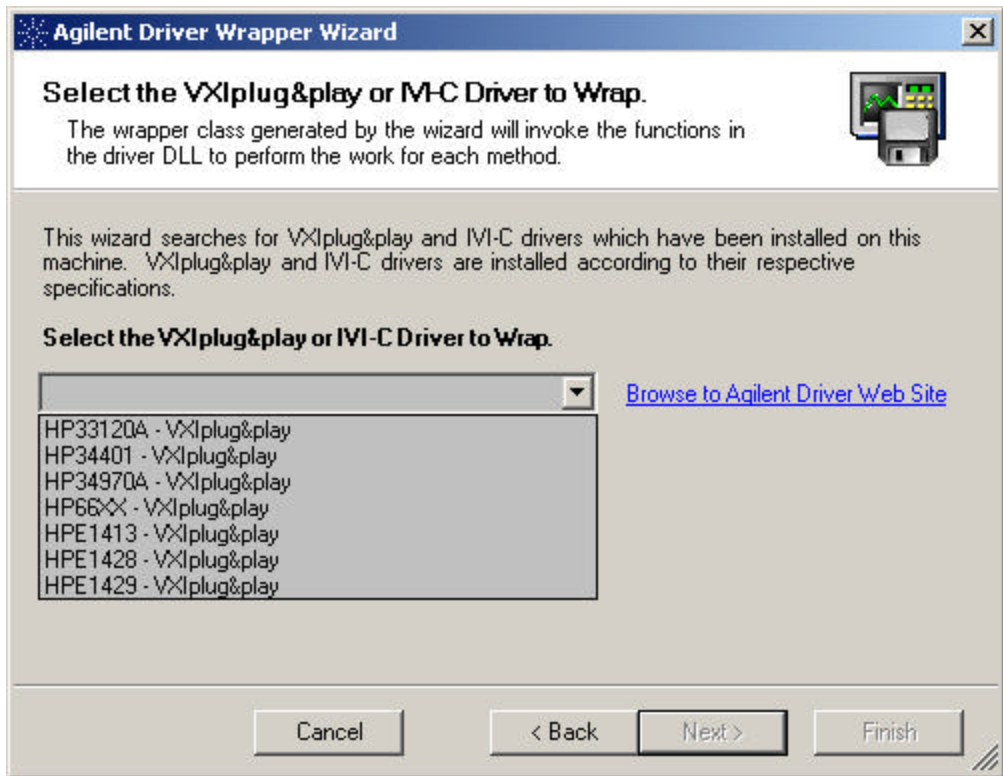

Figure 34 Selecting a *VXI plug&play* I-V-C Driver to Wrap
- 2 Choose from a list of VXI*plug&play* or IVI-C drivers installed on your machine. You can also download additional drivers from the Web. See Figure 34.